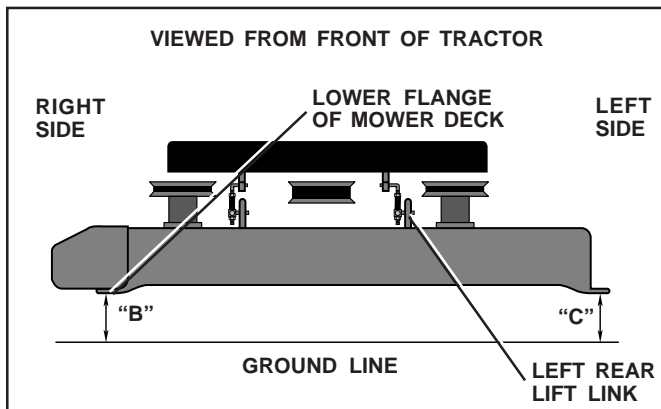

FIG. 18
- Place attachment height adjustment knob in position "3" (See Fig. 18).
SIDE-TO-SIDE ADJUSTMENT (See Figs. 18 and 19)